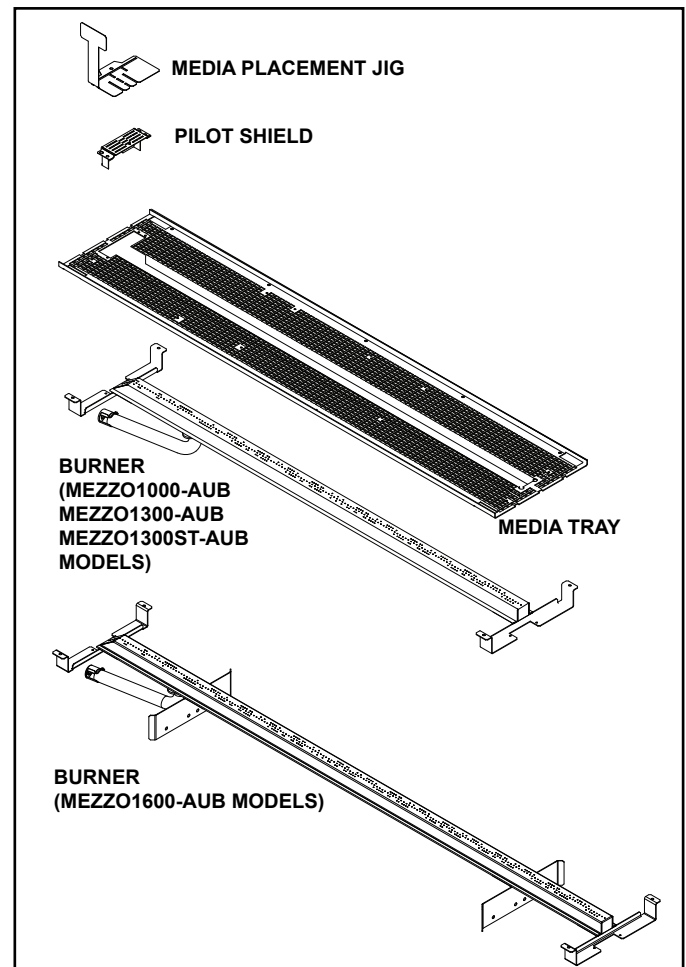
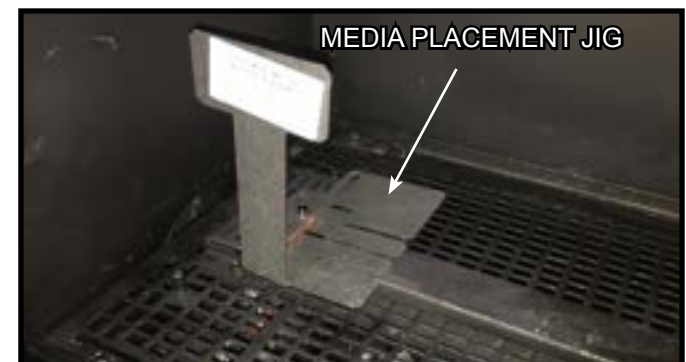

Figure 11.12 Media Tray Components
Figure 11.13 Media Placement Jig in Place
2. The included media placement jig, shown in Figure 11.12, MUST be used any time media are placed on the burner to ensure that none end up in the burner lighting area. Verify that the media placement jig is correctly installed in place in the appliance. See Figure 11.13.